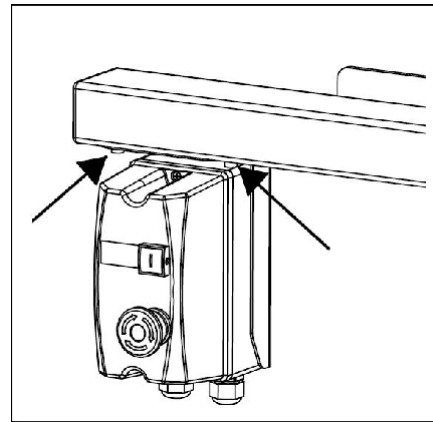

Fig. 14
3.4.6 Install the switch (Fig.14)